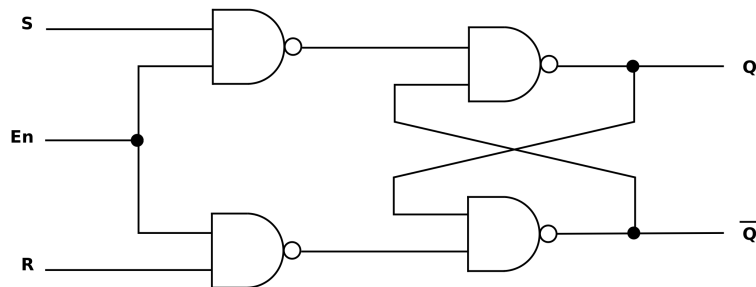

Figure 2: SR-latch Gate-level Schematic
Memory components come in many flavors but we will only study two types in this lab, namely latches and flip-flops. Latches can be combined to create flip-flops so we will begin by discussing latches. The simplest latch is the Set-Reset (SR) latch. The function table and gate-level schematic of an SR latch with an enable, En , are depicted in Table 1 and Figure 2, respectively. As you can see, the Set and Reset operations are expected to be mutually exclusive, meaning they cannot happen at the same time. However, when neither Set nor Reset is active, the value of Q (and consequently \bar{Q}) remains the same. Hence, the value of Q is latched or stored. From the SR-latch, we can construct a D-latch, also known as a transparent
3. (**Honors**) The circuit in Figure 2 is of a *cross-coupling* configuration. In other words, combinational feedback exists. Explain in your own words how the SR-latch is able to hold state even though it is constructed using combinational logic.
1. Simulate the operation of the SR-latch in Figure 2 using Verilog. The steps below will guide you through the process.